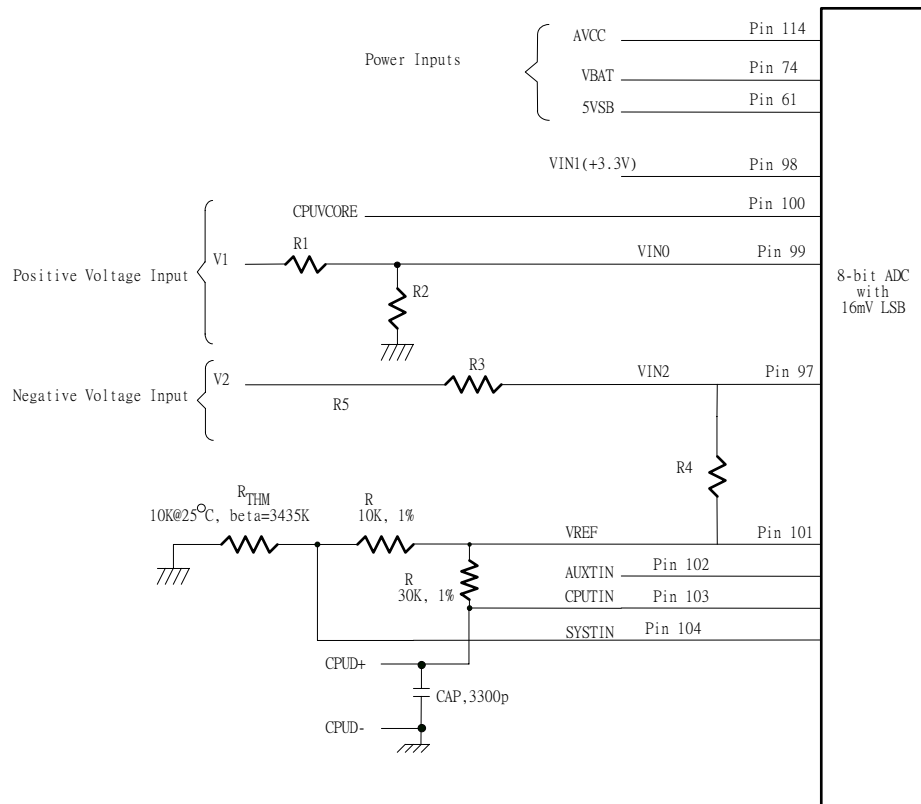

Figure. 5-2
The W83627THF can connect three thermistors to measure three different environment temperature. The specification of thermistor should be considered to (1) β value is 3435K, (2) resistor value is 10K ohms at 25°C. In the Figure 5-2, the themistor is connected by a serial resistor with 10K Ohms, then connect to VREF (Pin 101).